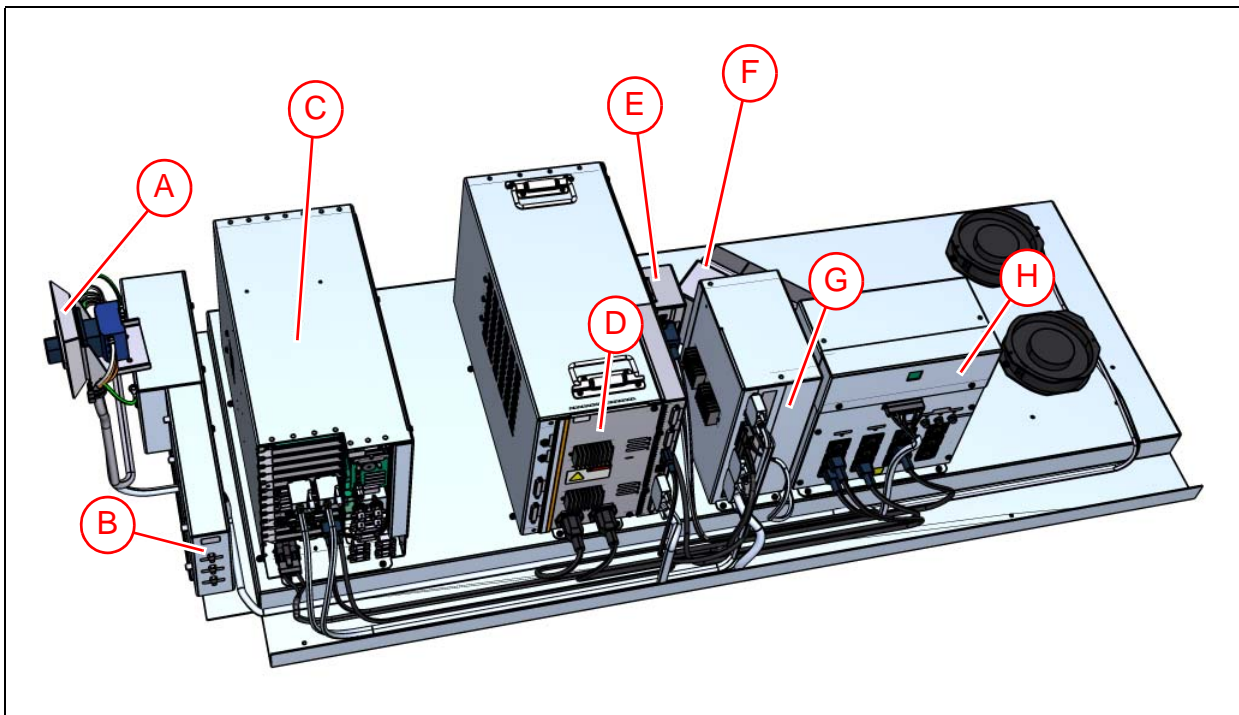

Figure 11-1. Electronic Shelf.
- Main Power Switch ('A' in Figure 11-1).
The battery pack is located on the electronic shelf, behind the PS5 unit ('6' in Figure 11-1).